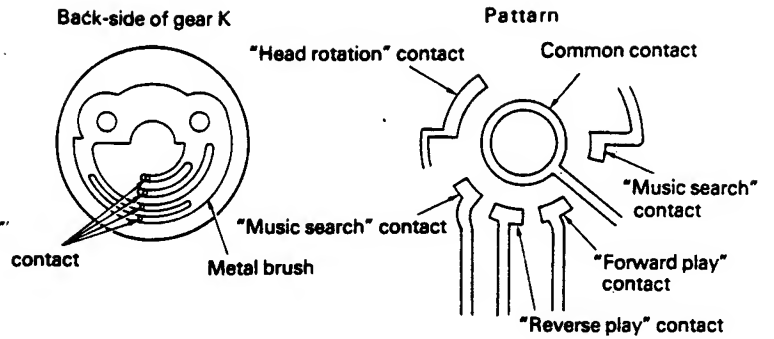

Fig. 16-9
3. Pin "B" engages with the arm "E" oval opening and rotates arm "E". The arm "E" sector gear is engaged with pin "C" and this turns the head. The head rotation pattern (Fig. 16-9) performs this operation inside a certain angle.